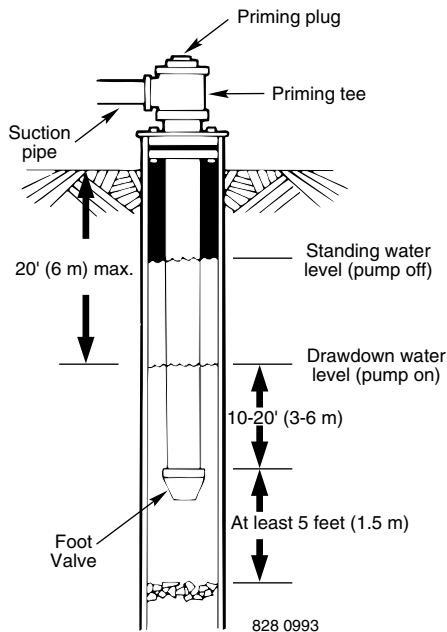
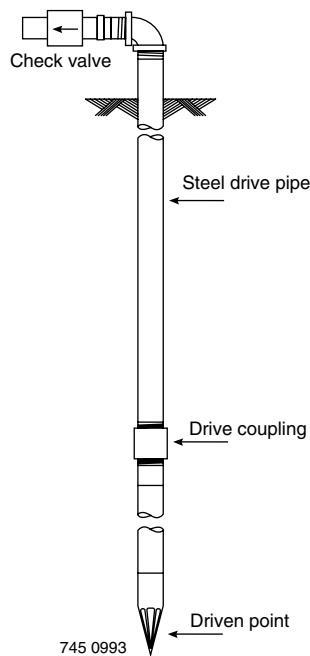

Figure 1: Cased/Dug Well Installation
Figure 2: Driven Point Installation
5. When using a foot valve, a priming tee and plug as shown in Figure 1 are recommended.
1. Connect the suction pipe to the drive point as illustrated in Figure 2. Keep horizontal pipe run as short as possible. Use Teflon tape on male pipe threads. Multiple well points may be necessary to provide sufficient water to pump.
2. To aid priming on well point installations, install a line check valve as shown in Figure 2. Be sure check valve flow arrow points toward pump.
NOTICE: For long horizontal pipe runs, install a priming tee between check valve and well head as shown in Figure 1. For driven point installations, install a check valve as shown in Figure 2. Be sure check valve flow arrow points **toward** pump.